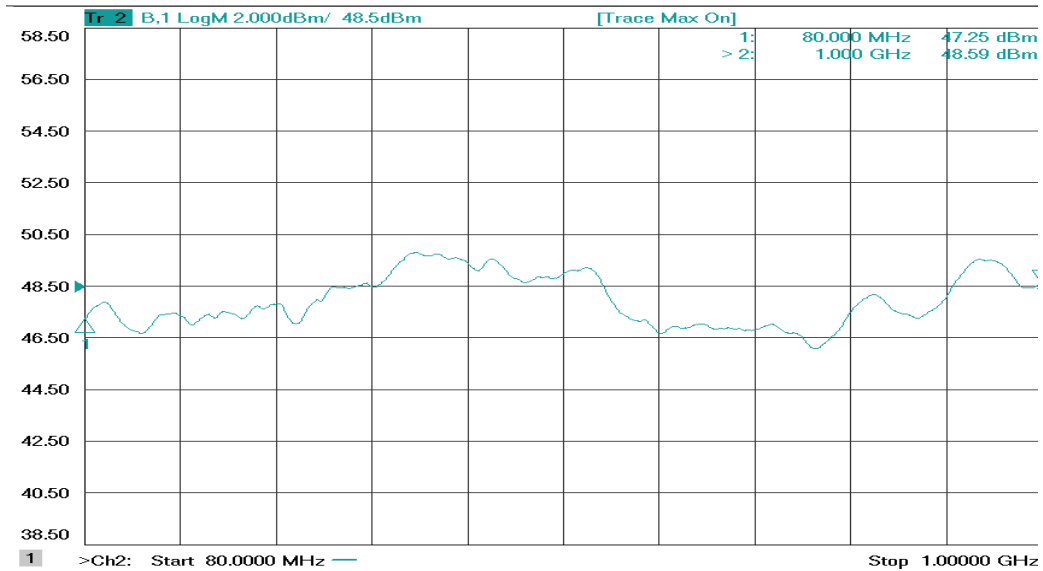
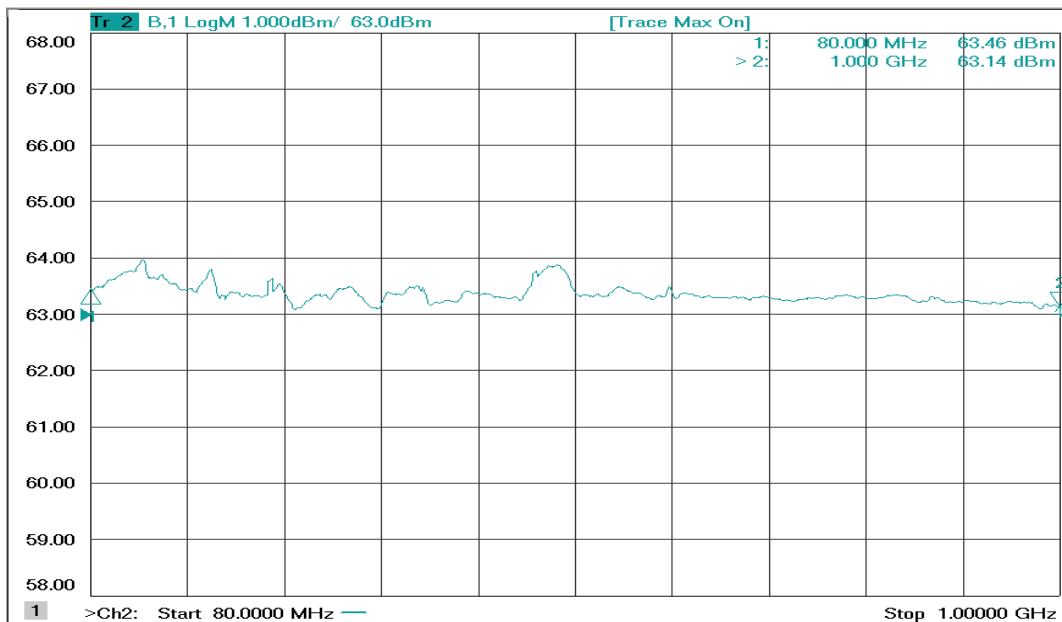

Figure 4-1. Typical Response at -20 dBm Input
Figure 4-2. Typical Response at 0 dBm Input
1. The Model 2000W1000E’s typical gain response at -20 dBm input and 0 dBm input is shown in Figures 4-1 and Figure 4-2.